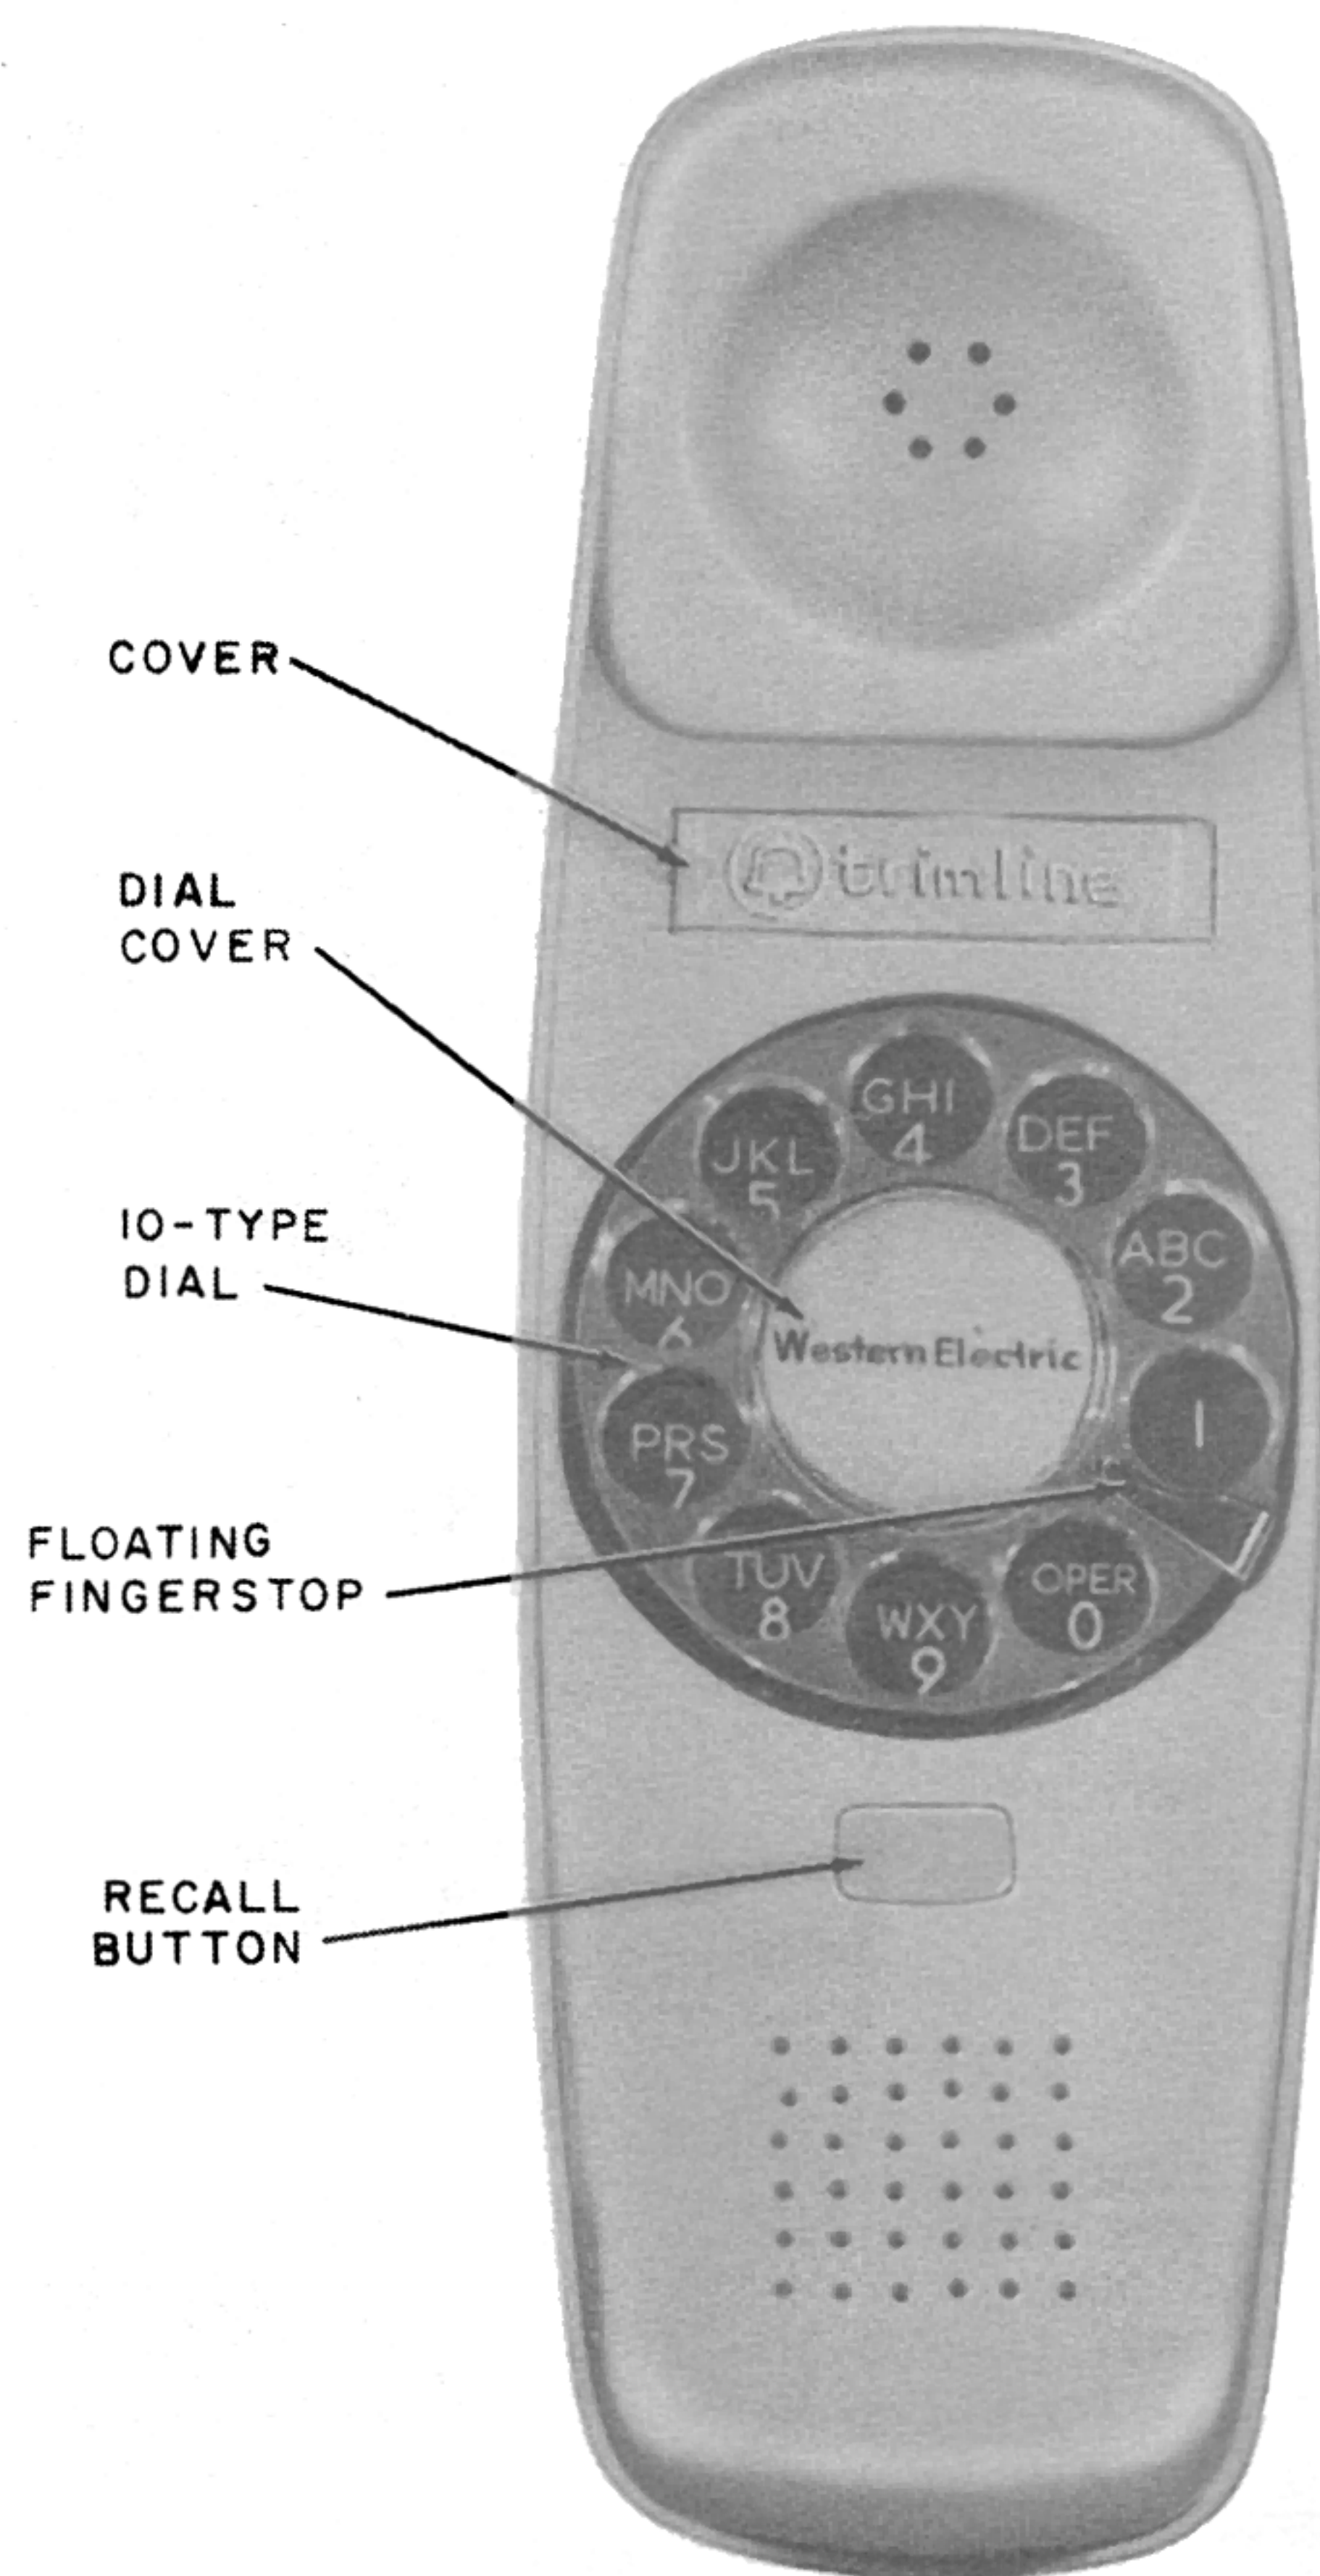

Fig. 1—220-Type Hand Telephone Set
1.01 This section contains information for the 220-, 226-, 2220-, and 2226-type hand telephone sets (Fig. 1, 2, and 3).
- Cover, Dial (Fig 1 and Table B)
- Cover (Fig. 1, 3 and Table B)
- ♦Amplifier, 315A (MD) (226A only)♦